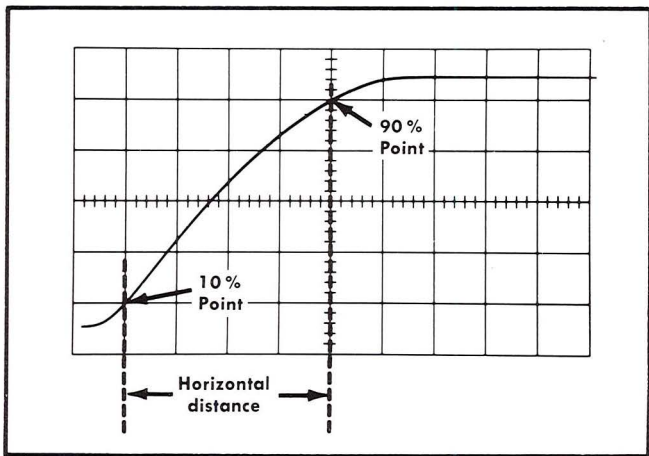

Fig. 5. Measuring risetime.
7. Adjust the horizontal POS control to move the 10% point of the waveform to the first graticule line. For example, with a five-division display as shown in Fig. 5, the 10% point is 0.5 division up from the start of the rising portion.
Example. Assume that the horizontal distance between the 10% and the 90% points is four divisions (see Fig. 5) and the SEC/DIV switch is set to 10  $\mu$ S.